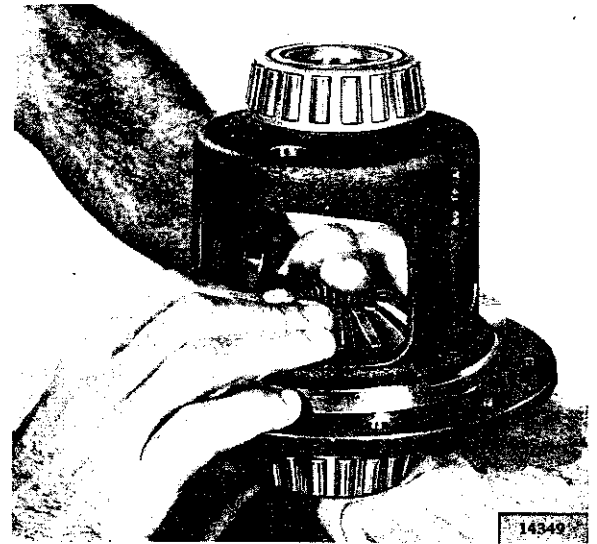

FIG. N-55—INSTALL DIFFERENTIAL CASE ON AXLE SHAFT
e. Assemble differential case onto the axle shaft in the position as shown in Fig. N-55.